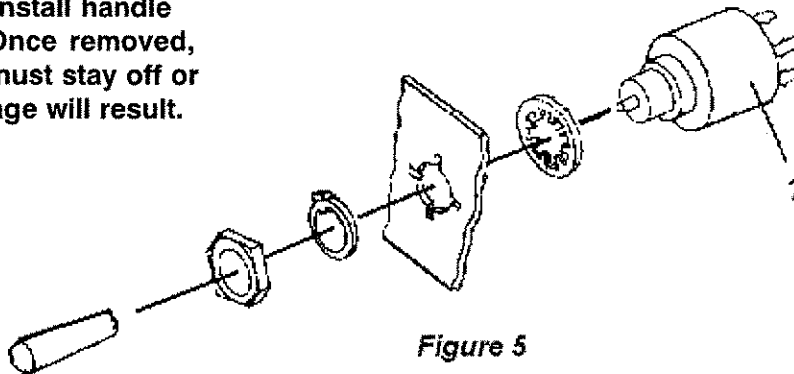

Figure 5
- I. Slide Boot over back of Control Switch (1) to conceal all connections and mount the Control Switch (1) in the previously installed bracket. The Control Switch (1) should be oriented so the handle is down when in the nonspring-return position. See Fig. 5.